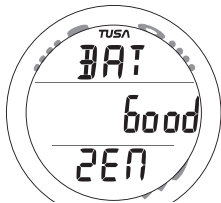

Fig. 5 - ZEN AIR BATT GOOD
- 2 seconds later, the ZEN AIR's Battery status will be displayed for 3 seconds (Fig. 5), then -